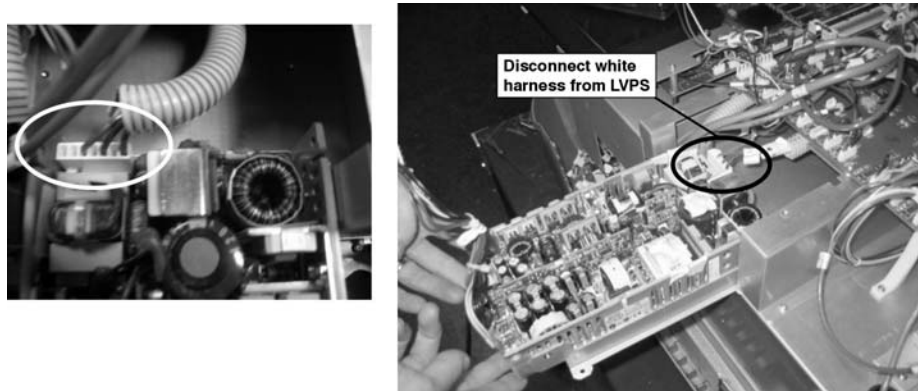

Figure 61. Remove LVPS
7. Remove the brackets secured to the LVPS – four (4) screws.
8. Remove the cable connection SK5, SK6, and the three (3) DC voltage connections.
9. Remove the LVPS. (Figure 61.)